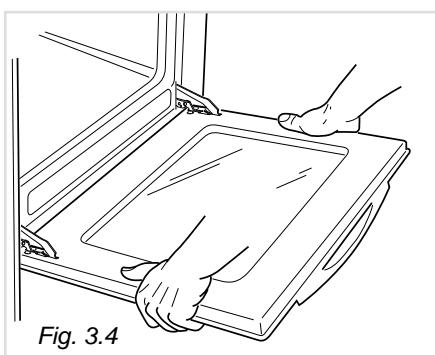
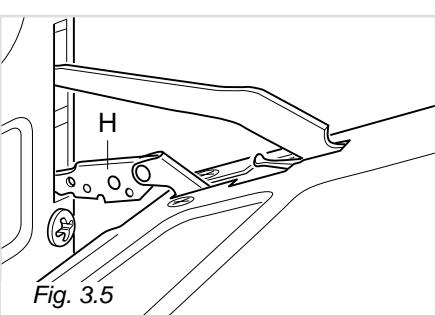

Fig. 3.4
Fig. 3.5
- Grip the door (as indicated in fig. 3.4) and, while closing it, release the two hinges as shown in fig. 3.5.
- Grip the door with your hands placed near the hinges and raise the levers "H" with your forefingers (fig. 3.5)